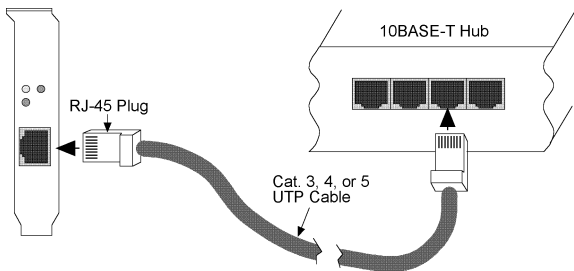

Figure 3-5 Connecting 10BASE-T Cable
2. Align the RJ-45 plug on the end of the UTP cable with the notch on the adapter's connector and insert it into the adapter connector as shown in Figure 3-5.